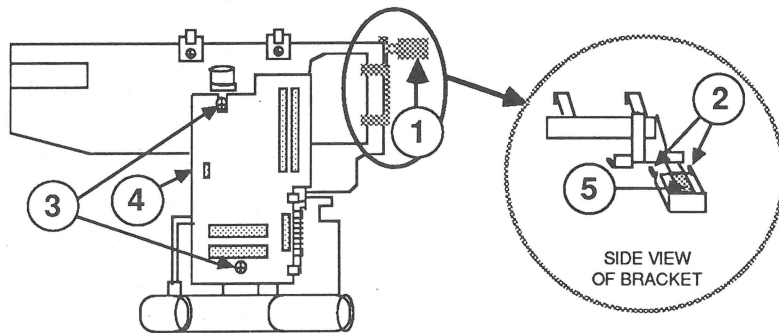

FIGURE 31
14. Locate the black plastic clamp on the carrier assembly holding the small connector in place (Figure 31, #1). Pry the two tabs (Figure 31, #2) loose and gently pull the clamp up and off.
15. Remove the two screws holding the print head PCB in place (Figure 31, #3).
16. Gently lift the side of the board (Figure 31, #4). Slide it out from the tabs and remove it from the carrier assembly.
17. Slide out the small three-pin connector (Figure 31, #5) mounted on the carrier assembly.
1. Slide the small three-pin connector, which is wired to the print head PCB, onto the mount provided on the carrier assembly (Figure 31, #5).
3. Replace the two screws (Figure 31, #3).
4. Position the bracket as shown in Figure 31, #1, and snap it into place.